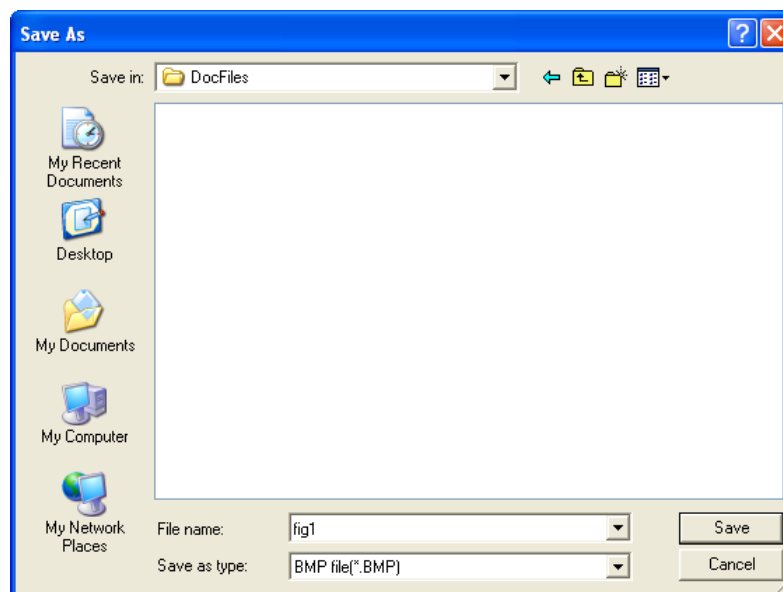

Figure 3-9 Saving a page in a file
- **Save Page Bitmap:** Users can save the current page in a clipboard or a file. If **Save to Clipboard** is clicked, the current page can be pasted into another editor. If **Save to File** is clicked, the **Save As** window will appear, as shown in Figure 3-9. The users have to set a path, and type a filename in the **Save As** window. Besides, the current page is saved as a .bmp file.